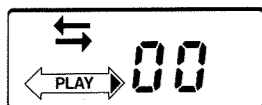

Fig. 1-3b
- Where necessary, switch on the Dolby NR system with key ②⑨ "DOLBY".
- Press key ②④ "PLAY". "PLAY" now appears on the display (Fig. 1-3b) and playback begins.
- Assuming that the display is as in Fig. 1-3b, the tape will automatically stop at the end.